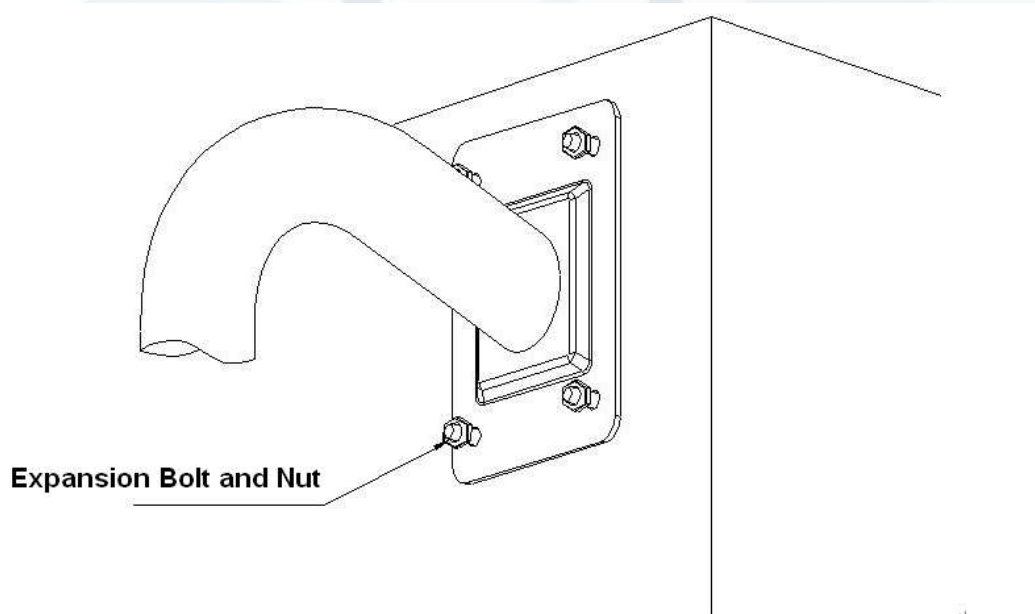

Figure 4-3
3. Drill holes in the wall according to the installation holes at the bottom of the wall mount bracket. Please make sure the cable exit of the bracket is facing the round hole in the wall. Insert expansion bolts (not provided) to the holes you have just drilled. Connect the composition cable and then pull it through the hole in the wall. Use four hex screws and flat washer to secure the bracket to the wall with the expansion bolts. See Figure 4-3.